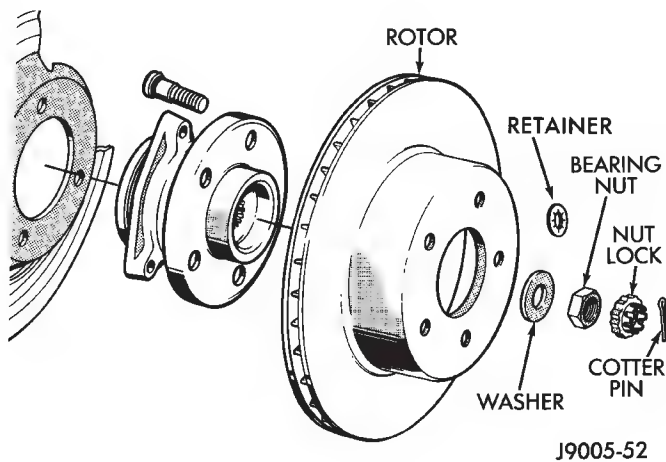

Fig. 26 Rotor And Hub
- (1) Raise vehicle and remove wheel.
- (2) Remove caliper.
- (3) Remove retainers securing rotor to hub studs (Fig. 26).
- (4) Remove rotor from hub (Fig. 26).
- (5) If rotor shield requires service, remove front hub and bearing assembly.